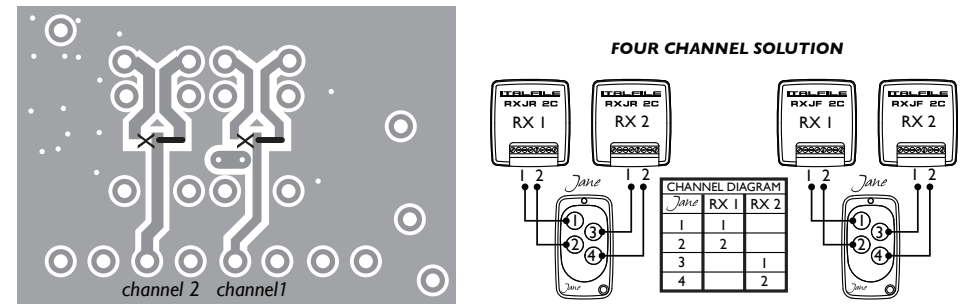

Figure 1: Back of the RXJ PCB
- Cut the path relative to the required channel at the point as shown in figure 1